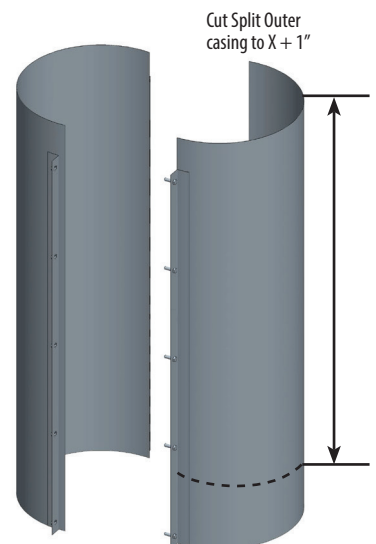

Figure 15 - Step 3 -
Step 3 - Cut the split outer casing on the opposite side of the flanged half at dimension X plus 1". See Figure 15.